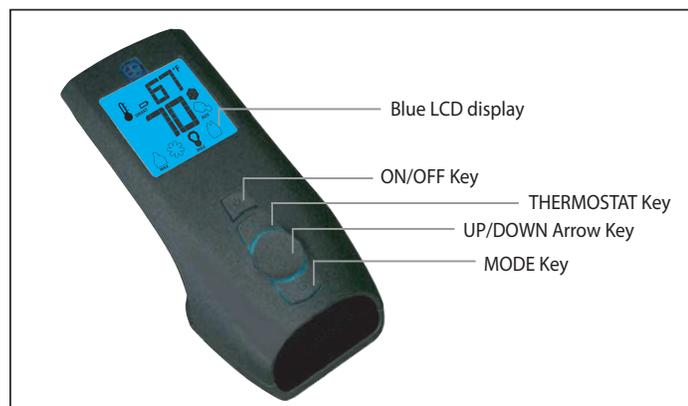
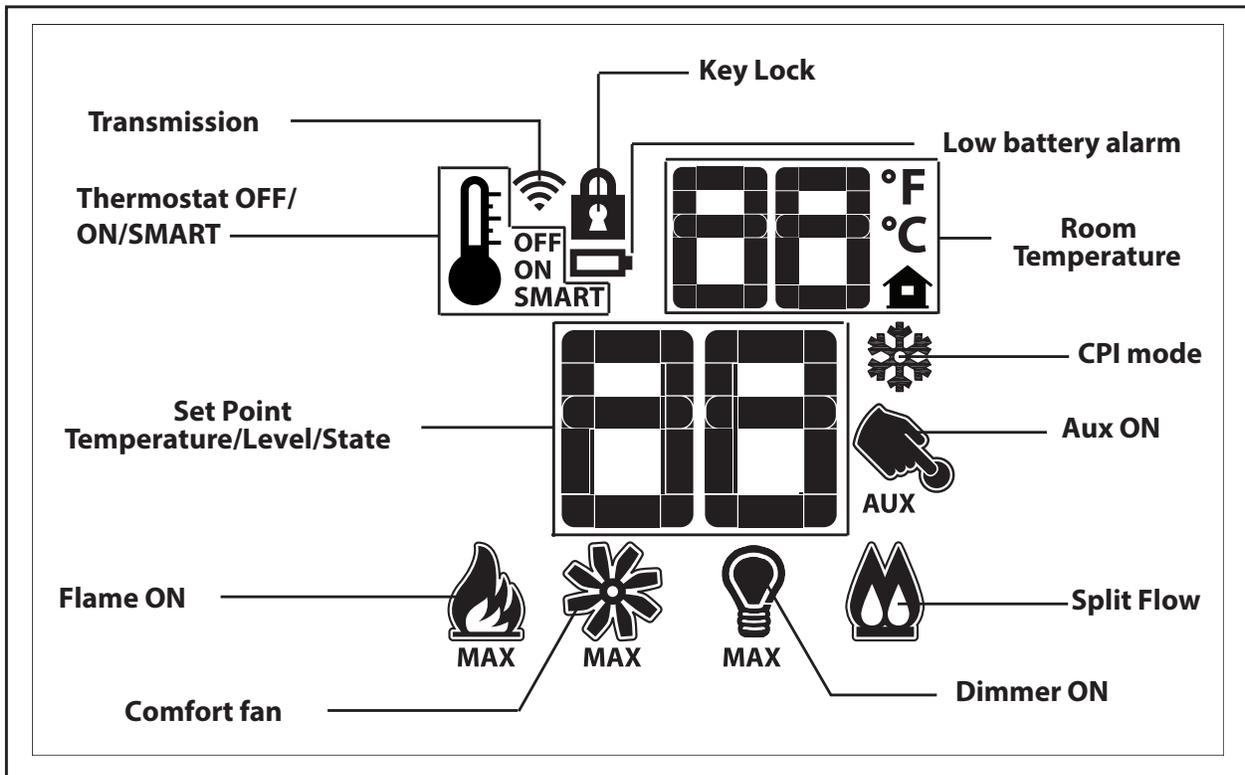
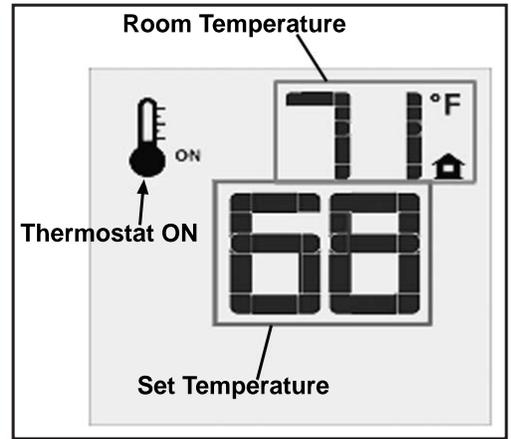
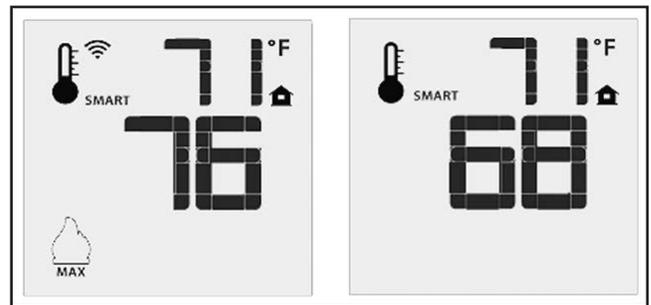

Figure 4: Proflame 2 Transmitter.
Figure 5: Proflame 2 Transmitter LCD Screen.
Figure 9: Remote Control Displays Set Temperature.
Figure 10: Remote Control's Smart Flame Function.
The Proflame 2 Transmitter is a black remote control with a blue backlit lcd display. It uses a streamline design with a simple button layout and informative lcd readout (Figure 5). The Transmitter is powered by three (3) AAA type batteries. A Mode Key is provided to Index between the features and a Thermostat Key is used to turn on/off or index through Thermostat functions (Figure 4 & 5)
Press the ON/OFF Key on the Transmitter. The Transmitter LCD display will only show the room temperature and Icon (see Figure 9). A single “beep” from the IFC confirms reception of the command and both the pilot light (if the unit is not set to continuous pilot) and main burner will turn off.
The Remote Control can operate as a room thermostat. The thermostat can be set to a desired temperature to control the comfort level in a room. To activate this function, press the Thermostat Key (see Figure 4). The LCD display on the Transmitter will change to show that the room thermostat is “ON” and the set temperature is now displayed (see Figure 9). To adjust the set temperature, press the Up or Down Arrow Keys until the desired set temperature is displayed on the LCD screen of the Transmitter.
The Smart Thermostat function adjusts the flame height in accordance to the difference between the set point temperature and the actual room temperatures. As the room temperature gets closer to the set point the Smart Function will modulate the flame down. To activate this function, press the Thermostat Key (Figure 4) until the word “SMART” appears to the right of the temperature bulb graphic (Figure 10). To adjust the set temperature, press the Up or Down Arrow Keys until the desired set temperature is displayed on the LCD screen of the Transmitter.